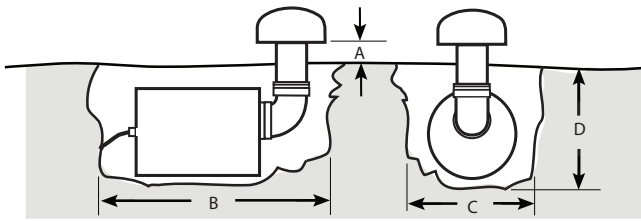

Figure 2
2. Dig the hole using the guide. See figure 2